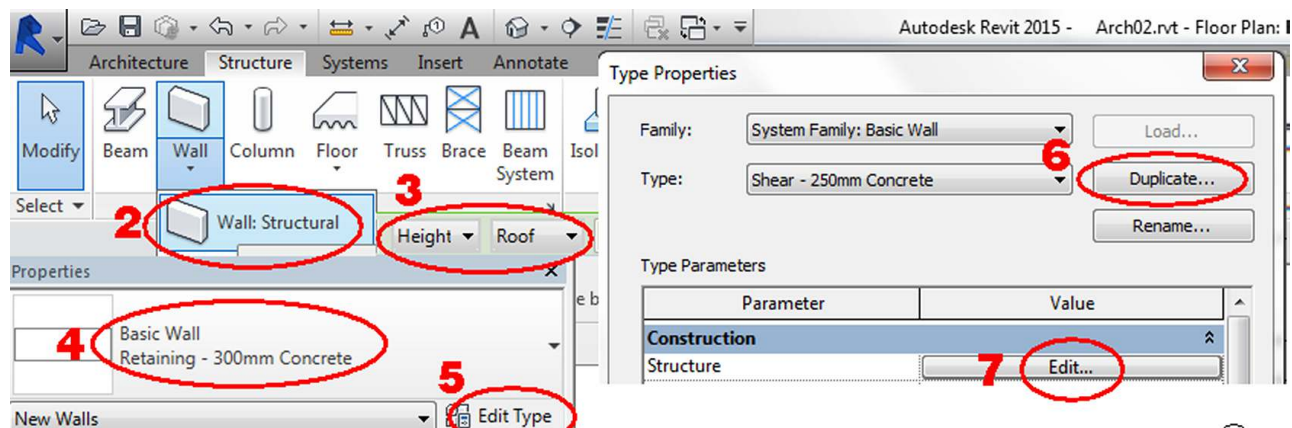

Fig. 2.10 – Edit Shear Wall type
2. Structure Tab → Structure Panel → Wall → Wall : Structural Wall (Fig. 2.10).